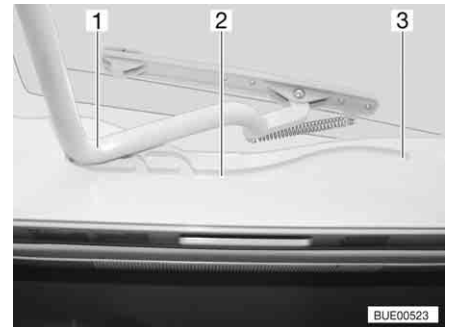

Fig. 90 Heki skylight, guide
- Pull the bar (Fig. 90,1) in the guides (Fig. 90,2) to the rearmost position (Fig. 90,3).
- Use both hands to push the bar (Fig. 90,1) slightly upwards.
- Pull the bar in the guides (Fig. 90,2) to the desired position.